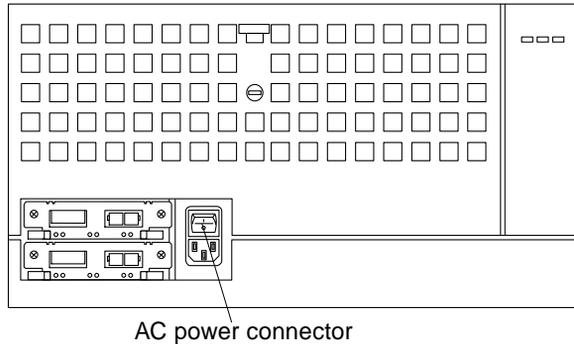

FIGURE 4-4 AC Power Connector
1. Connect the female end of the power cord to the power receptacle at the back of the disk array (FIGURE 4-4).